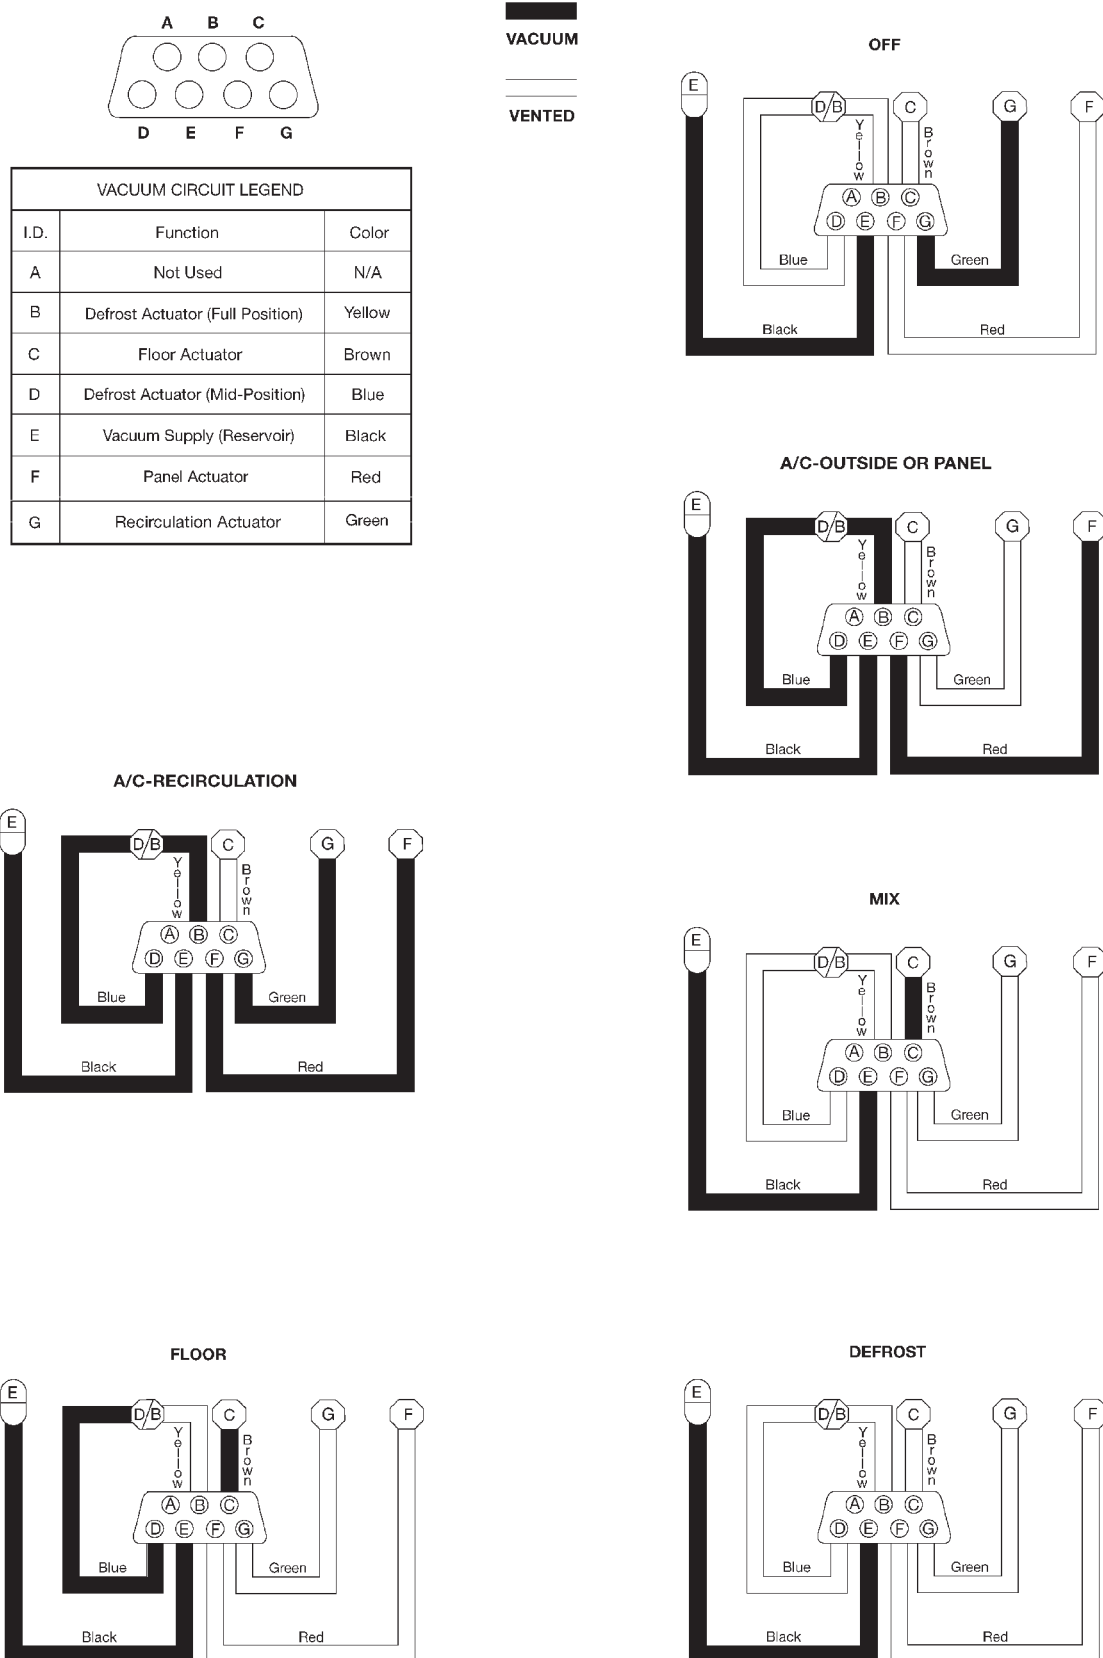

Fig. 11 Vacuum Circuits - Heater-A/C
(3) Determine the vacuum line color of the vacuum circuit that is leaking. To determine the vacuum line colors, refer to the Vacuum Circuits chart (Fig. 10) or (Fig. 11).